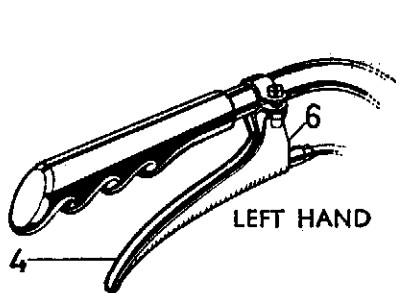
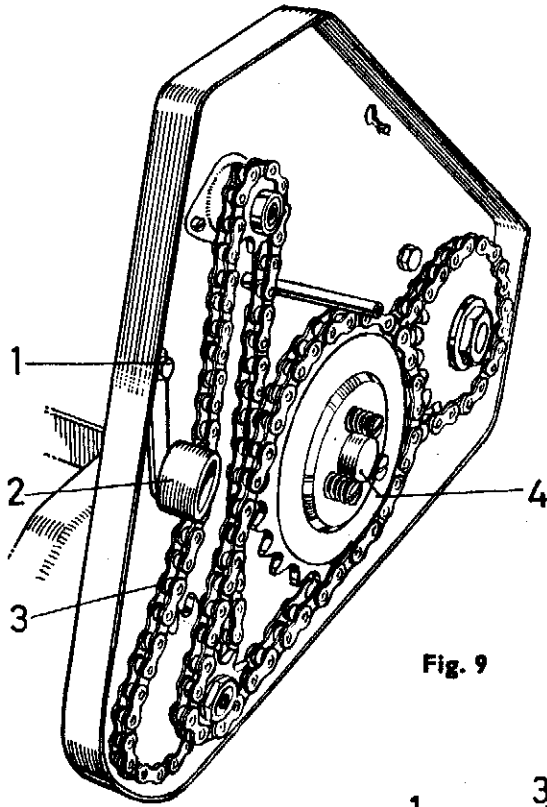

Fig. 2
Fig. 9
The rear roller drive release clutch (4, Fig. 9) is operated by the lever (4, Fig. 2) beneath the left handle grip. By raising the lever fully, the drive to the rear roller is disconnected, thus allowing the machine to be manoeuvred by hand in awkward corners with cutters only under power. In addition, this will allow the machine to be moved forwards or backwards freely, whether or not the engine is running.
2. Lightly oil all chains after removing chain cover by undoing centre screw. *Do Not Oil Clutch*, (4, Fig. 9).
2. At both ends of cables (5, Fig. 3) (6, Fig. 2) and (7, Fig. 3) operating engine clutch, roller drive release clutch and throttle.
Engine shaft to cutter shaft (3, Fig. 9). Slacken bolt (1, Fig. 9) and move tensioner (2, Fig. 9) towards chain so that there is approximately $\frac{1}{2}$ " of movement on the rear run of the chain. The remaining two chains will rarely require adjustment between servicing periods. These are adjusted, when necessary, by moving the roller drive clutch spindle (4, Fig. 9) up a slot in the sideframe after loosening securing nut (*no more than two and a half full turns*) located on the inside of the frame. Tighten nut firmly after adjustment.